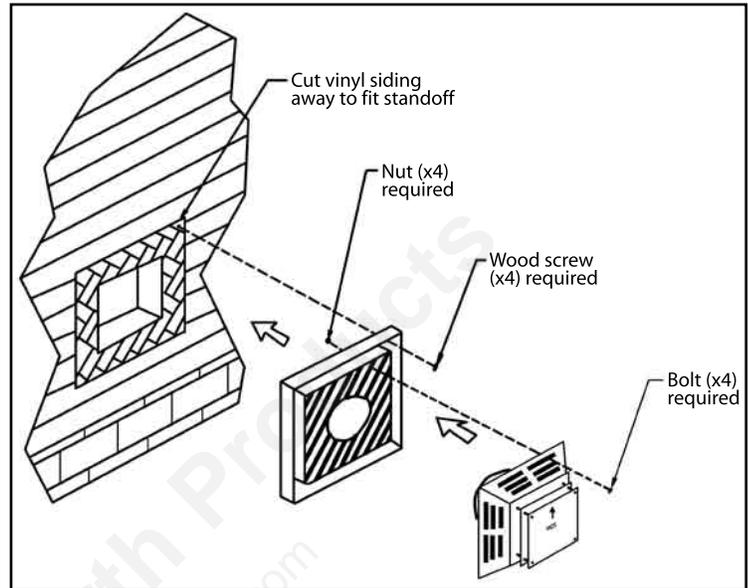

Figure 9: Installing Vent Cap with Vinyl Siding Stand-Off.
- (1) The four wood screws provided should be replaced with the appropriate fasteners for stucco, brick, concrete, or other types of siding.
- (2) For buildings with vinyl siding, a vinyl siding standoff, should be installed between the vent cap and the exterior wall (see Figure 9). Attach the vinyl siding standoff to the horizontal termination. The vinyl siding standoff prevents excessive heat from possibly melting the vinyl siding material. Note that the horizontal vent termination bolts onto the flat portion of the vinyl siding standoff (shaded area in Figure 9), so that an air space will exist between the wall and the vent termination.